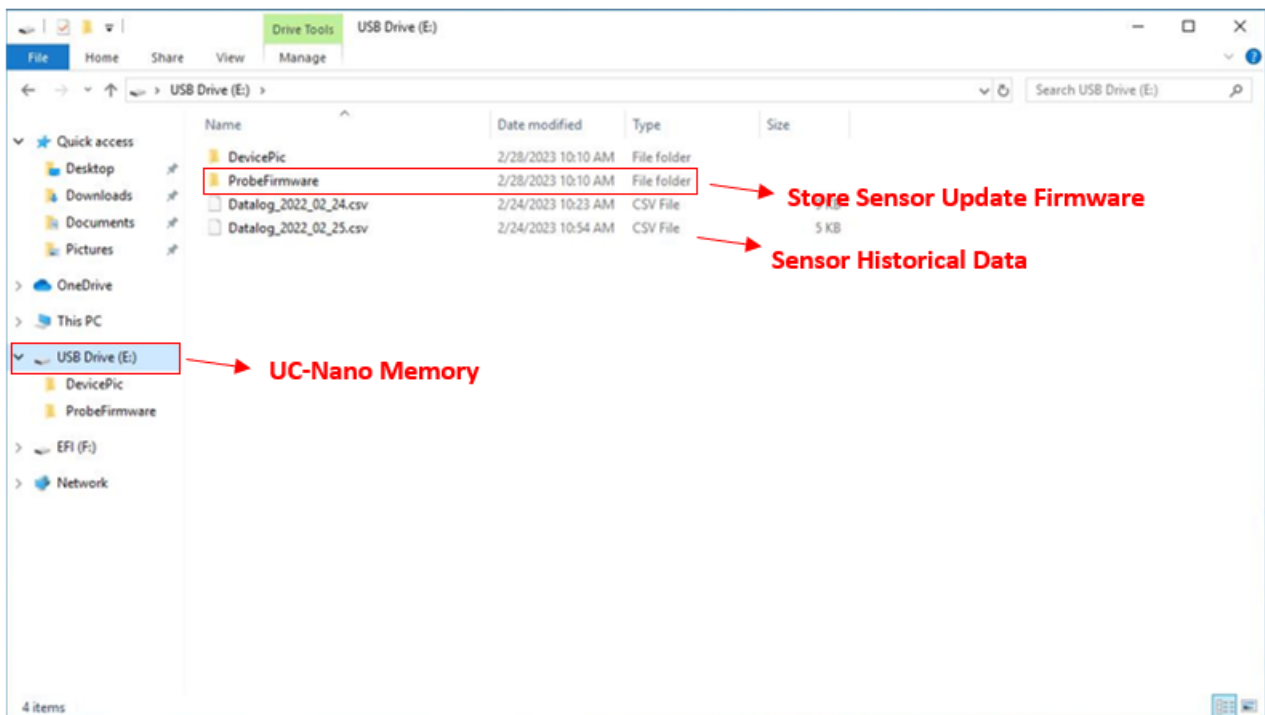

Figure 30. NanoView UC-10 Virtual USB Flash Drive
3. There is a **Sensor Firmware** folder in the internal storage of NanoView UC-10 (Figure 30), which is used to store the upgraded firmware of the sensor, and sensor data information recorded is stored in the root directory (named in the format of datalog + date). Users can export or delete historical data as needed.